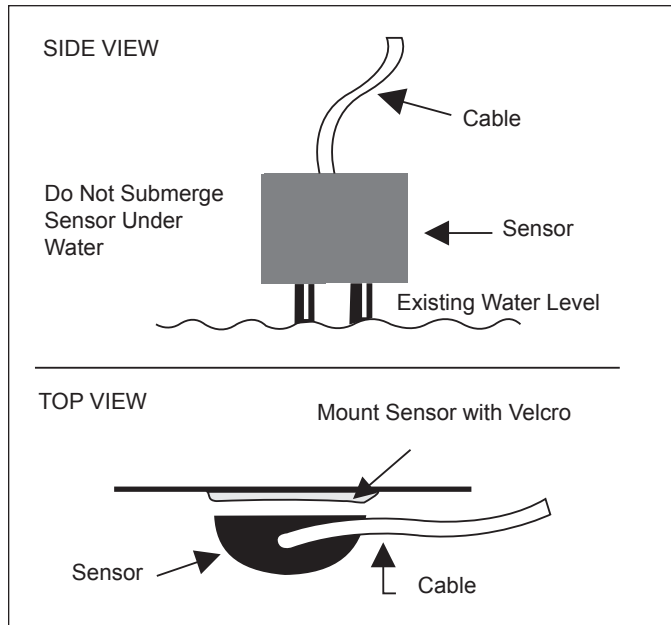

Figure 13. Skim (Half-moon) Sensor Retrofit Installation
- a. Mount the skim (half-moon) sensor horizontally to an existing skimmer. Mount with velcro or a suitable adhesive in the skimmer throat behind the whirl door arc. See Figures 13 and 15.